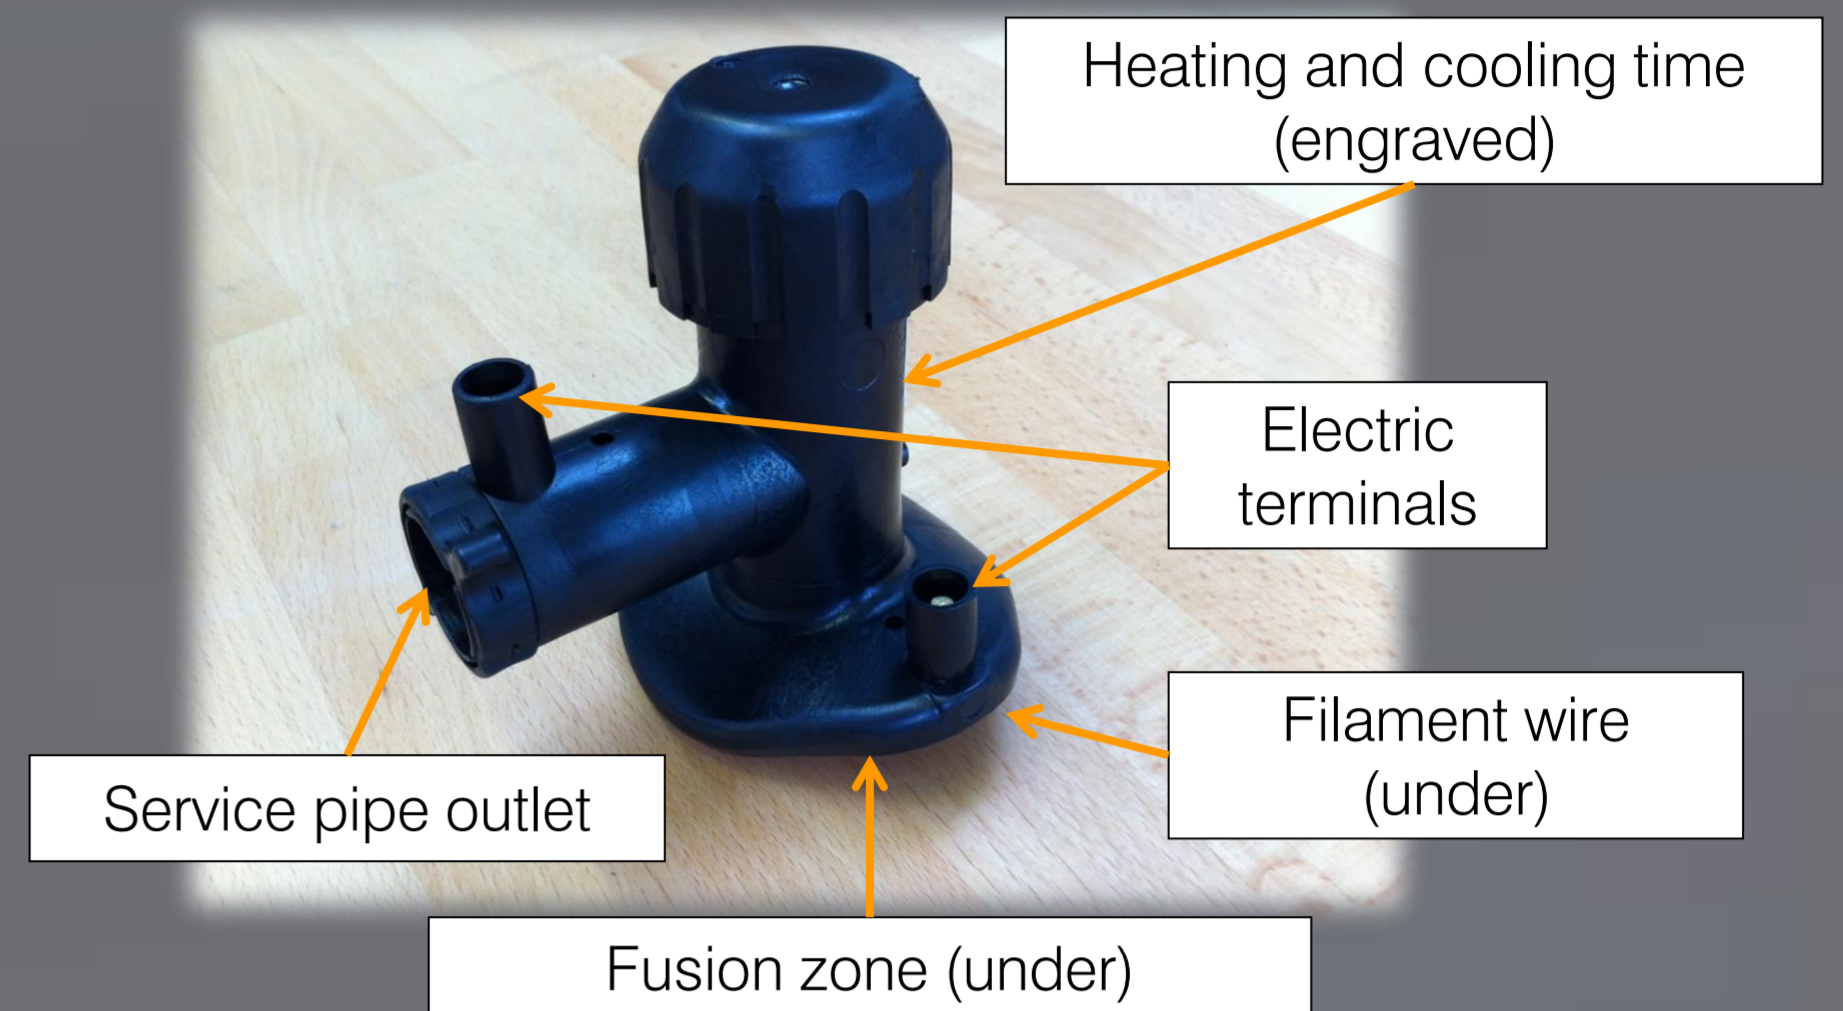

Figure 1. Electrofusion Tapping Tee.
- An experimental hydraulic piston rig was designed and built to destructively test EF TAPPING TEES (Figure 1)